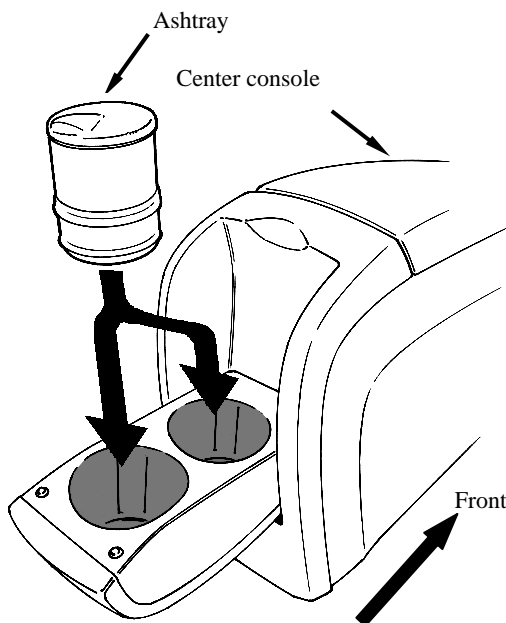

Fig. 2-1
- (a) Insert the ashtray into the rear cup holder of the center console (Fig. 2-1)